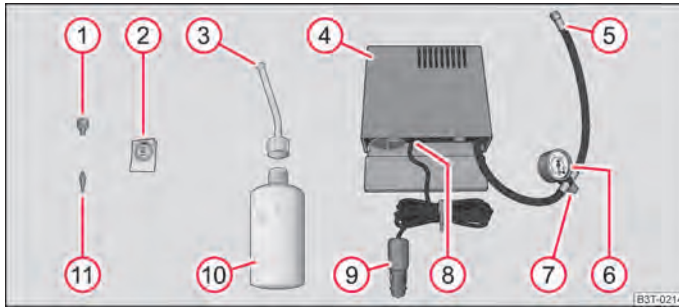

Fig. 192 Components of the tyre repair kit
- Stick the sticker ② ⇒ fig. 192 on the dash panel in view of the driver.
- Use the valve remover ① to remove the valve core and place it down on a clean surface.
- Forcefully shake the tyre inflator bottle ⑩ ⇒ fig. 192 several times.
- Firmly screw inflation hose ③ onto the tyre inflator bottle in a clockwise direction ⑩. The film on the cap is pierced automatically.
- Remove the plug from the inflation hose ③ and plug the open end fully into the tyre valve.
- Hold the bottle ⑩ with the floor facing upwards and fill the whole sealing agent in the tyre inflator bottle into the tyres.
- Screw the valve core back into the tyre valve using the valve remover ①.
- Screw the tyre inflation hose ⑤ ⇒ fig. 192 of the air compressor firmly onto the tyre valve.
- Check whether the air release valve ⑦ is closed.
- Plug the connector ⑨ into 12 Volt socket ⇒ page 91.
- Switch on the air compressor with the ON and OFF switch ⑧.
- If you cannot reach an air pressure of 2.0 - 2.5 bar, unscrew the tyre inflation hose ⑤ from the tyre valve.
- Screw the tyre inflation hose of the air compressor ⑤ firmly back onto the tyre valve and repeat the inflation procedure.